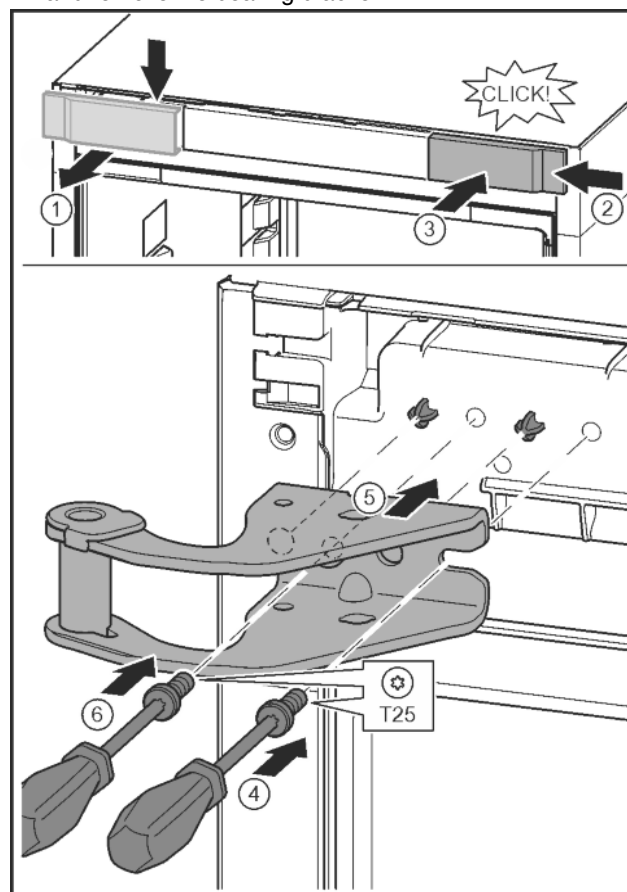

Fig. 14
- Release the cover and remove from the side. Fig. 14 (1)
- Rotate the cover 180° and clip onto the other side from the right. Fig. 14 (2)
- Click the cover into place. Fig. 14 (3)
- Position the screw with a T25 screwdriver. Fig. 14 (4)
- Position the upper bearing bracket. Fig. 14 (5)
- Tighten the screw. Fig. 14 (6)
- Insert the screw with a T25 screwdriver and tighten. Fig. 14 (6)